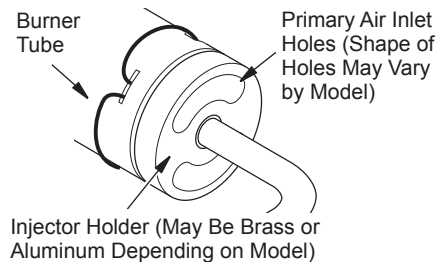

Figure 43 - Injector Holder On Outlet Burner Tube
2. Inspect burner, pilot and primary air inlet holes on injector holder for dust and dirt (see Figures 43 and 44).